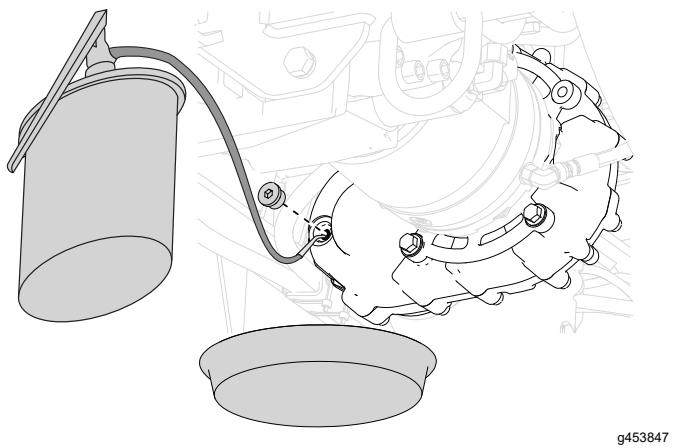

Figure 116
6. Fill the gearbox with 0.34 L (11.5 fl oz) of the specified oil through the sight port (Figure 116).